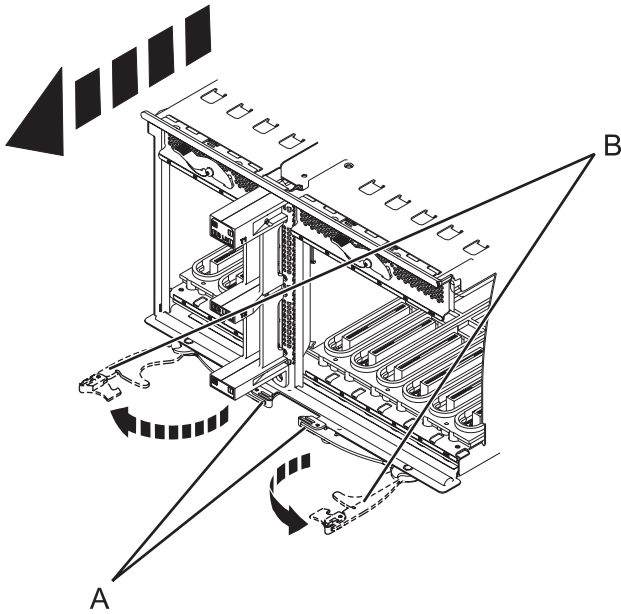

Figure 92. Removing the I/O system board
12. Squeeze the release latches (**A**) and pull the levers (**B**) out away from the system, as shown in Figure 92.